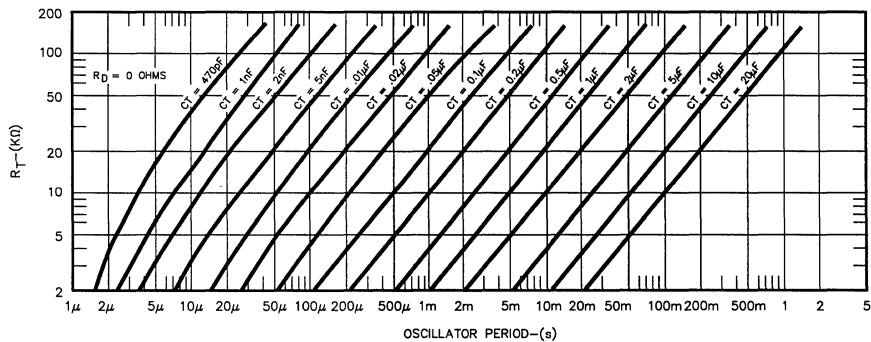

FIGURE 7. OSCILLATOR PERIOD VS.  $R_T$  AND  $C_T$
1. With  $R_D = 0\Omega$  (pin 11 shorted to ground) select values for  $R_T$  and  $C_T$  from Figure 7 to give the desired oscillator period. Remember that the frequency at each driver output is half the oscillator frequency, and the frequency at the  $+V_c$  terminal is the same as the oscillator frequency.